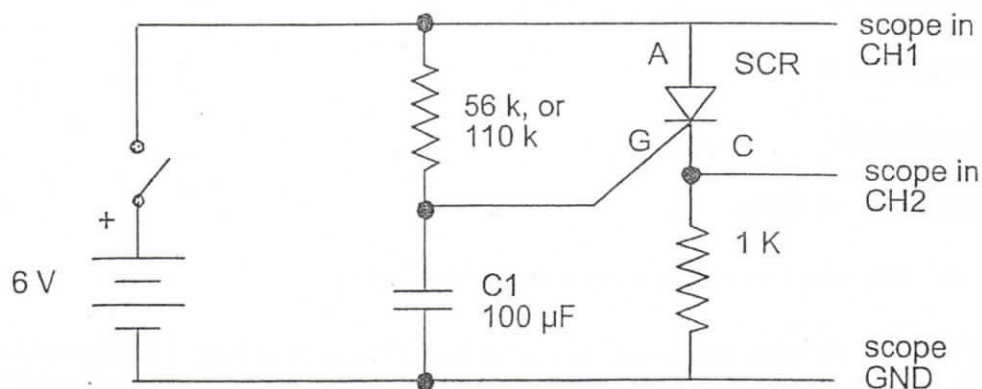

Figure 3-8 RC Timer
“ The circuit in Figure 3-8 switches on a voltage across the load after a delay. The SCR switches on when the gate voltage (G) exceeds the cathode voltage (C). The gate voltage is developed across the capacitor C_1 by the R-C combination.